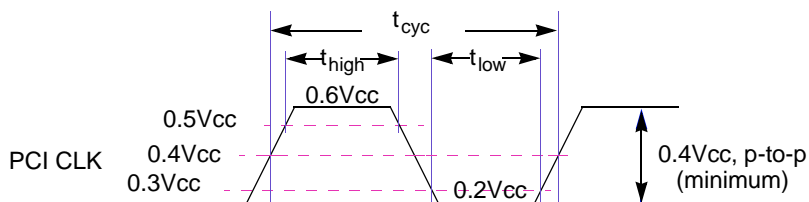

Figure 12. PCI CLK Waveform
Figure 12 shows the clock waveform and required measurement points for 3.3 V signaling environments. Table 21 summarizes the clock specifications.
- 2 Rise and fall times are specified in terms of the edge rate measured in V/ns. This slew rate must be met across the minimum peak-to-peak portion of the clock waveform as shown in Figure 12.